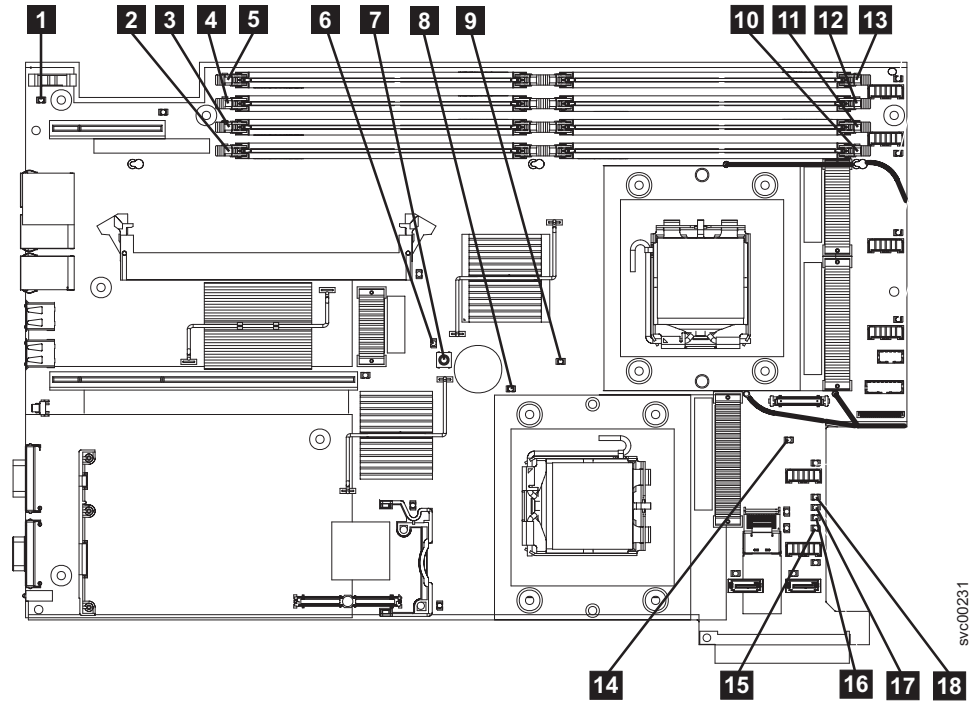

Figure 58. The SAN Volume Controller 2145-8G4 system board
YES Refer to Table 21 on page 324 and perform the action specified for the specific light path diagnostic LEDs, then go to step 3 on page 325. Some actions will require that you observe the state of LEDs on the system board. The location of the system board LEDs are shown in Figure 58 on page 323. The fan LEDs are located adjacent to each FAN. To view the LEDs you will need to do the following:
- Press the light path diagnostic button (**7** in Figure 58 on page 323).